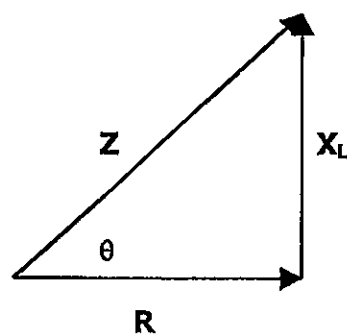

Fig 7.1
The reactance and resistance can be represented as vectors shown in Figure 7.1
The length of the arrow represents the magnitude or the size of the vector, while the arrowhead shows the direction of the vector. The resultant between the two is the value of impedance (Z). From Figure 7.1 we see that the inductive reactance and the resistance are 90 deg. apart. The angle " θ " between the impedance and resistance is known as phase angle. Angle " θ " describes the angle (how much out of phase) between the applied voltage and the resulting current.